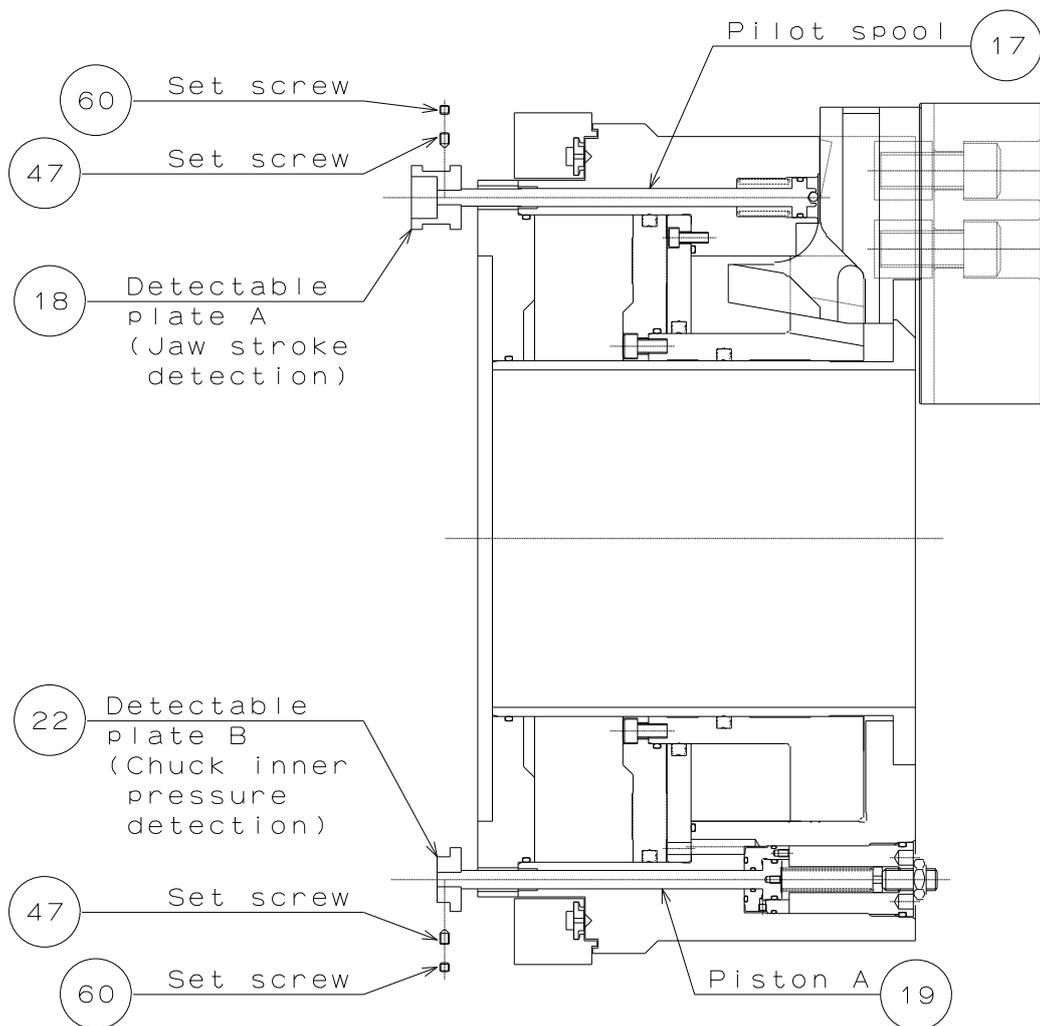

Fig. 16
- If the spindle is rotated when back pressure is present, the diaphragm packing will be damaged and the gripping force will be lost, causing the workpiece to fly out. Exhaust detection must be performed as shown in Fig.16 and the circuit must be designed so that the spindle cannot be rotated when back pressure is present.